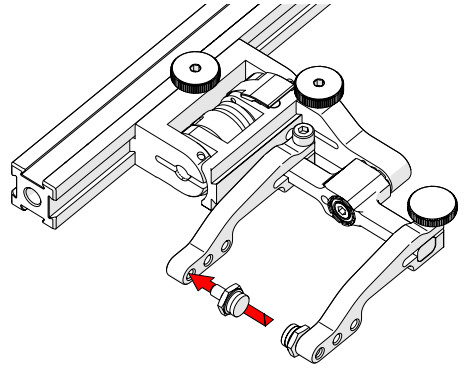

Fig. 90 - Place pivot buttons
4. Using the supplied 3/8 in wrench (Fig. 34), place the pivot buttons (Fig. 90) farthest from the yoke for maximum wedge clearance.